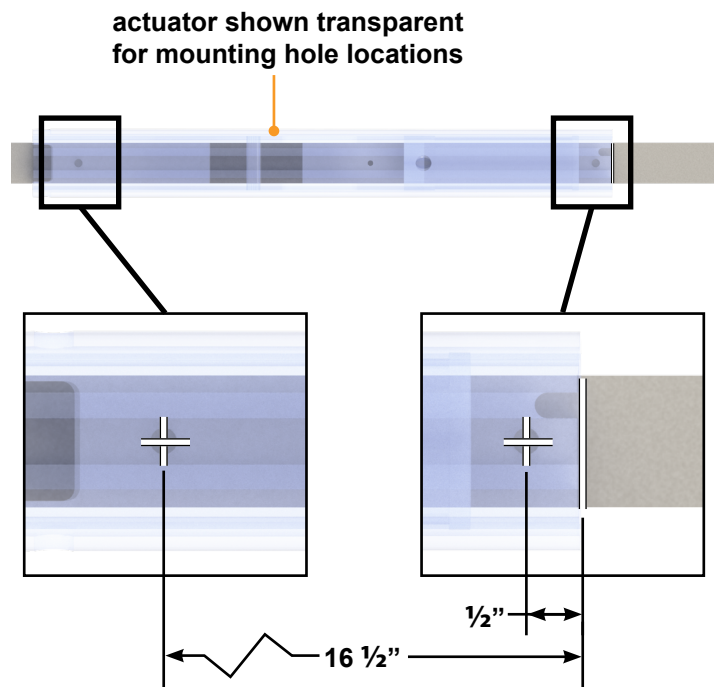

Fig.7
A. Measure back $\frac{1}{2}$ " and $16\frac{1}{2}$ " and mark (Fig7).
D. Use a drill with a $\frac{3}{8}$ " bit to drill both holes in the center of the frame at the previously marked (step A) locations (Fig.7).
6. Install the starboard actuator on top of the fence railing where the dry-fit markings were made (step 4) (Fig.7).